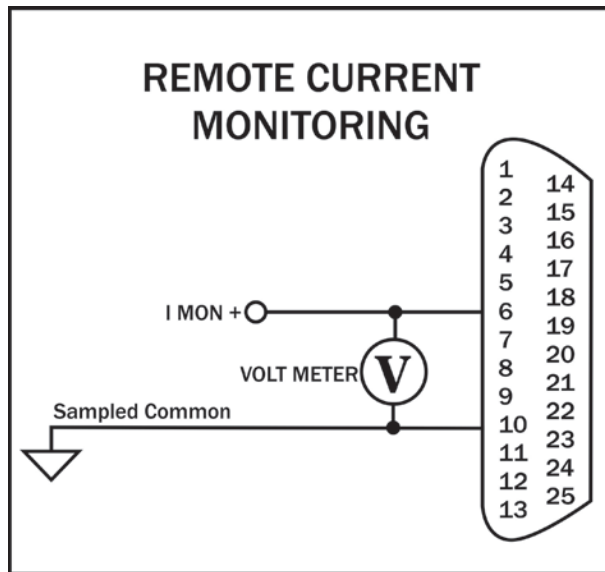

Figure 6.10 – Remote Current Monitoring
**Method:** Connect a voltage meter to monitor the output current being produced by the amplifier. Connect across PIN 6 (I MON+) and PIN 10 (Sampled Common). See **Figure 6.10**.